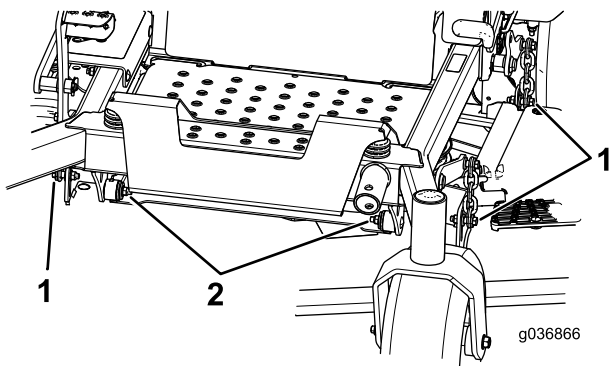

Figure 85
7. Remove and retain the bolts and nuts on both sides of the machine (**Figure 85**).